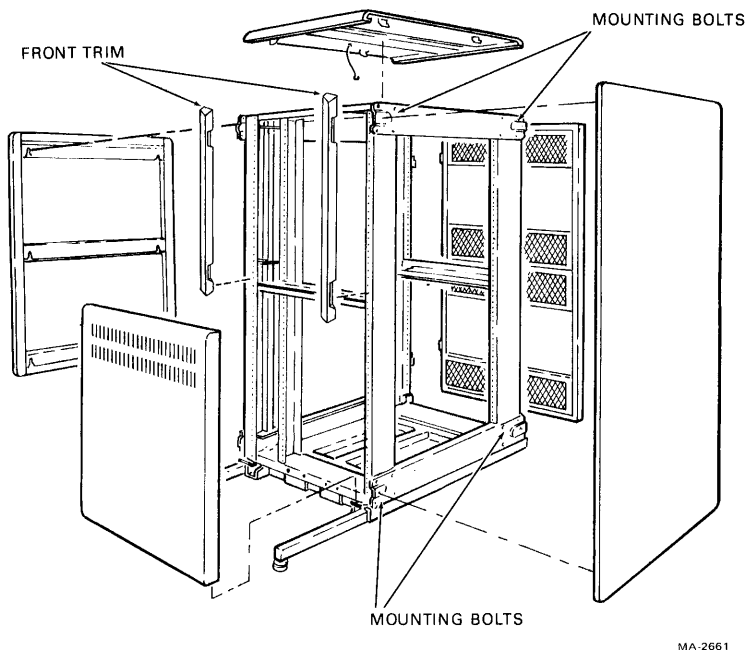

Figure 2-11 Corporate Cabinet with Side Panels and Top Cover Removed
10. Remove the end panel furthest from the CPU by grasping it by both sides and lifting it off the four mounting bolts. If the side panel will not lift off, it may be necessary to loosen the mounting bolts. Remove the front panel trim to gain access to the upper front mounting bolt. To remove the trim, lift up and out (Figure 2-11).